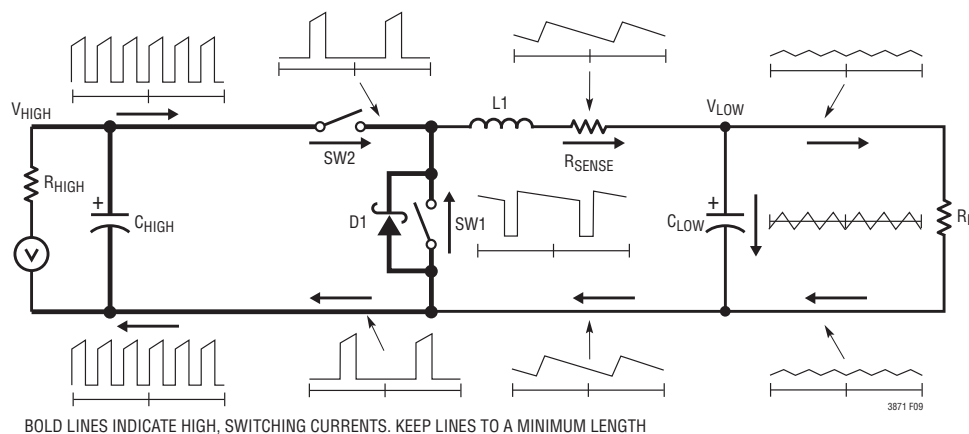

Figure 9. Branch Current Waveforms (Buck Mode Shown)
When laying out the printed circuit board, the following checklist should be used to ensure proper operation of the IC. These items are also illustrated graphically in the layout diagram of Figure 9. Check the following in the PC layout:
- The 47pF to 330pF ceramic capacitor between the ITH pins and signal ground should be placed as close as possible to the IC. Figure 9 illustrates all branch currents in a switching regulator. It becomes very clear after studying the current waveforms why it is critical to keep the high switching current paths to a small physical size. High electric and magnetic fields will radiate from these loops just as radio stations transmit signals. The output capacitor ground should return to the negative terminal of the input capacitor and not share a common ground path with any switched current paths. The left half of the circuit gives rise to the noise generated by a switching regulator. The ground terminations of the synchronous MOSFET and Schottky diode should return to the bottom plate(s) of the input capacitor(s) with a short isolated PC trace since very high switched currents are present. External OPTI-LOOP[®] compensation allows overcompensation for PC layouts which are not optimized, but this is not the recommended design procedure.